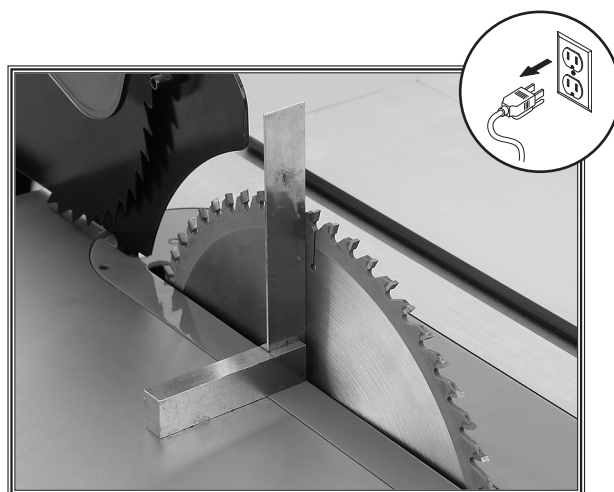

Figure 42. Checking blade angle to table.
3. Place a 90° machinist's square between the teeth on the blade and on the table surface, as shown in **Figure 42**.